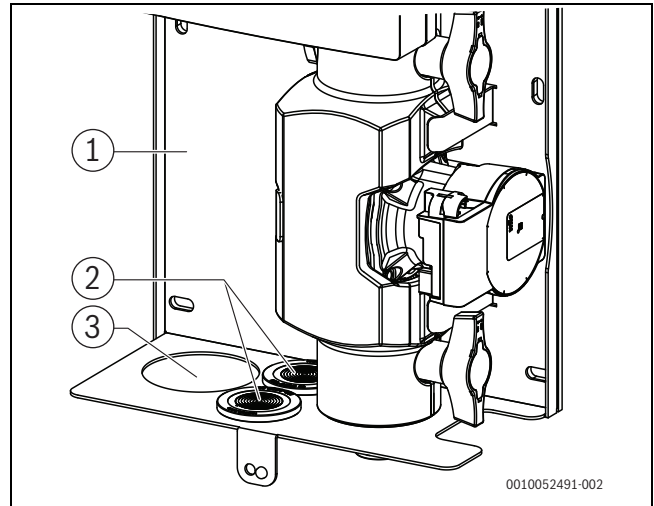
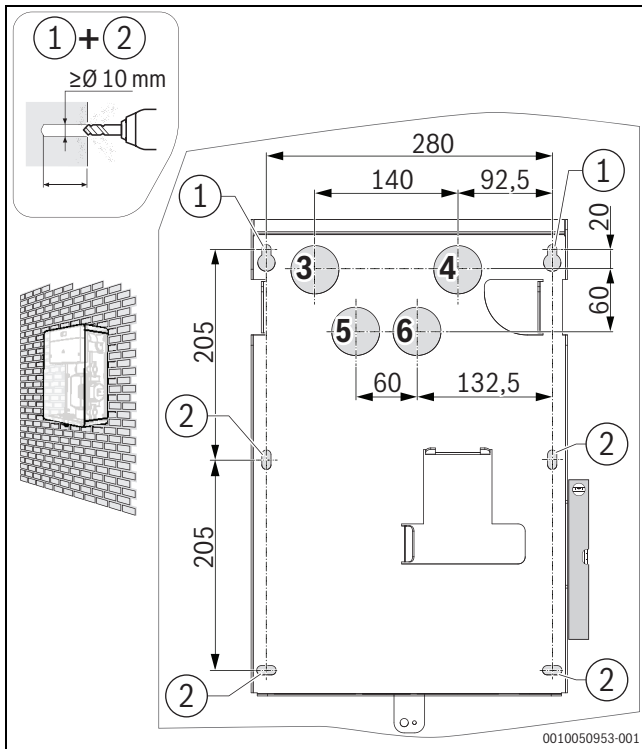

Fig. 14 Opening for the cables through the bottom panel
Fig. 15 Drilling plan for option 1
Before installing the wall mounting bracket (→Fig. 14), the corresponding mounting holes and openings for the hydraulic and electrical lines must be made on the wall as described below, in accordance with the selected option 1 or 2 (→Fig. 15 and 16).
Electrical cables can be routed either at the rear through the wall or downwards through the bottom panel (→Fig. 14 and 15).
- ▶ Drill holes in the wall according to the drilling plan (→Fig. 15).
Electrical cables can be routed either through the wall or downwards through the bottom panel (→Fig. 14 and 16).